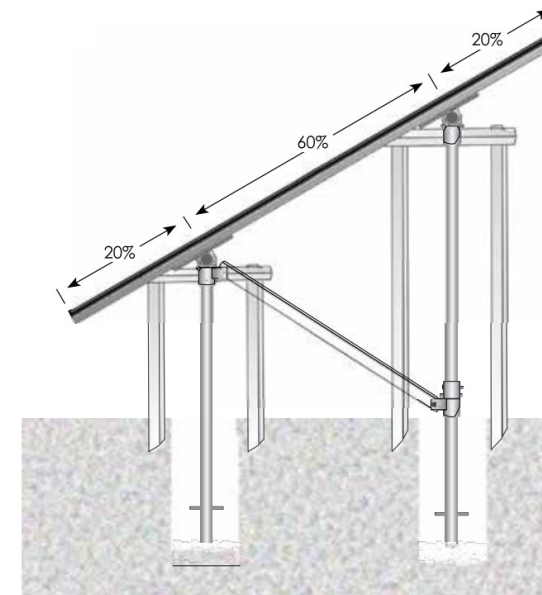

Figure 2
- If a ULA has just a few pairs (up to 3 pairs) of legs, installers may prefer to assemble the full truss structure prior to pouring concrete. See figure 2